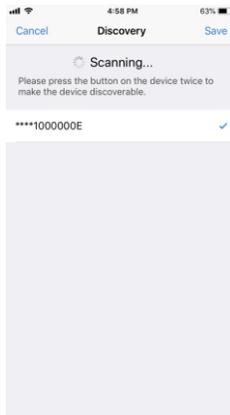

Figure 6
5. Once the device/device are discovered, tick the device/device and tap "Save" button, the device/device will be added successfully. (as shown in **Figure 6**)